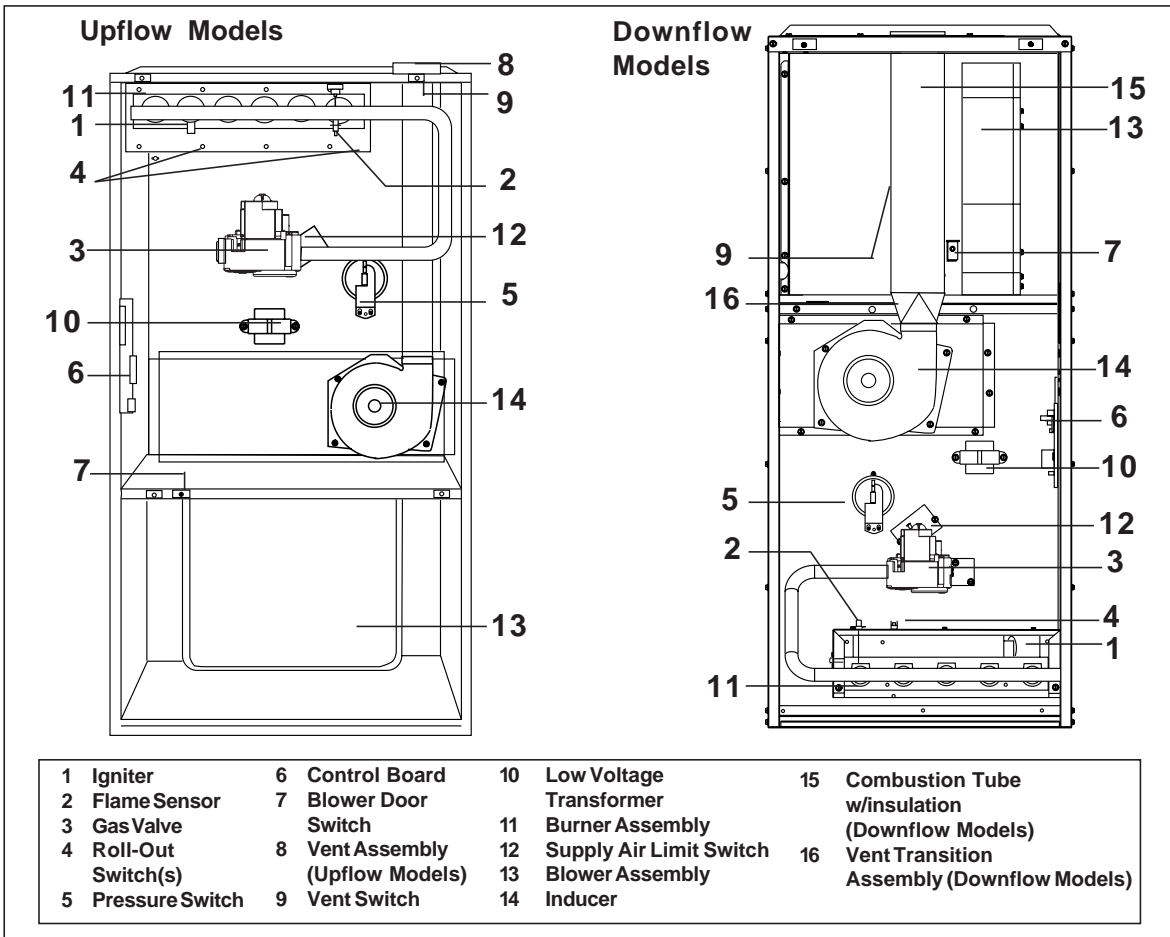

Figure 29. Location of Major Components
Figure 29 shows the location of each of the functional components described below. Also, refer to the Sequence of Operation Section of this manual. If any component of the furnace must be replaced, use only factory authorized replacement parts. See the Replacement Parts List for the factory authorized replacement for each component.
If the flue passages must be cleaned, follow the steps below. See Figure 29 for component location and identification.
If the furnace locks out after 5 attempts for ignition, it will try again every hour if a call for heat remains. If the inducer and circulating air blowers are operating, and items 1 through 8 have been checked, press the red reset button on the vent safety switch (See Figure 29). If the furnace operates after depressing the reset button, contact a qualified serviceman to identify and repair the problem.
If the furnace continues to not operate, depress the red reset buttons on the flame roll-out switches. (See Figure 29.) If the furnace operates after depressing the reset buttons, contact a qualified servicemen to identify and repair the problem.